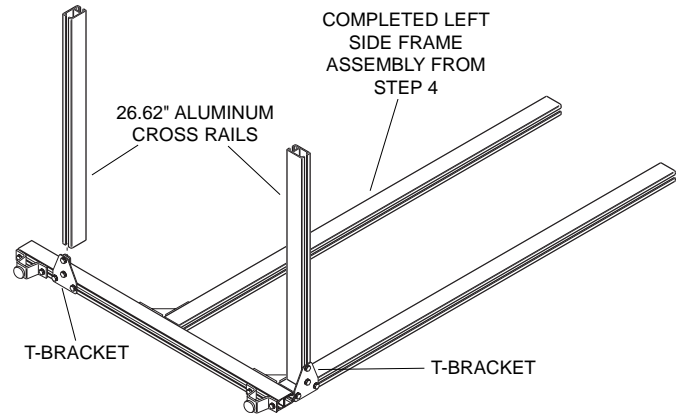

Figure 4.
4. Install 26.62" aluminum cross rails onto T-plates on left hand side frame assembly (Fig. 4). Make sure cross rails are tight against frame members and securely tighten clamp bolts.